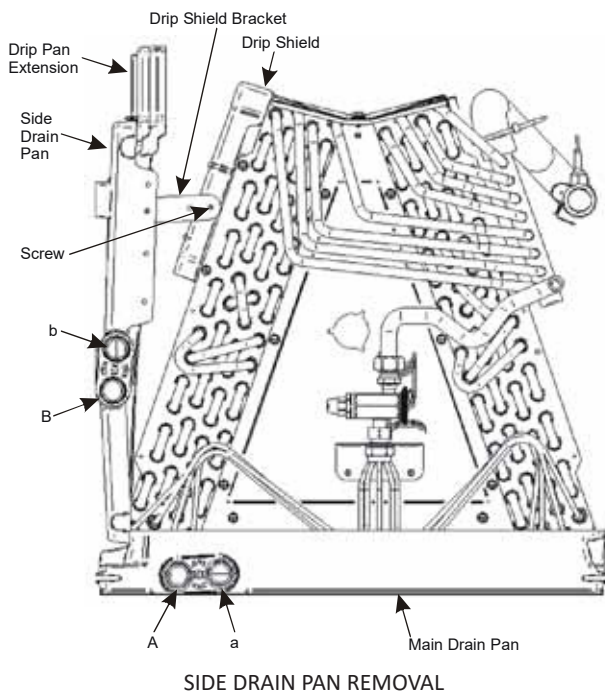

Figure 1
Side Drain Pan and Extension Removal: Refer to Figure 1, remove the two (2) screws that secure the drip shield support brackets to the condensate collectors (front and back). Unsnap the side drain pan from the main drain pan using a screw driver or any small lever. The side drain pan, drip shield brackets and the drain pan extension may now be removed. From Figure 1, drain port labeled (A) is the primary drain for this application and condensate drain line must be attached to this drain port. Drain port (a) is for the secondary drain line (if used).